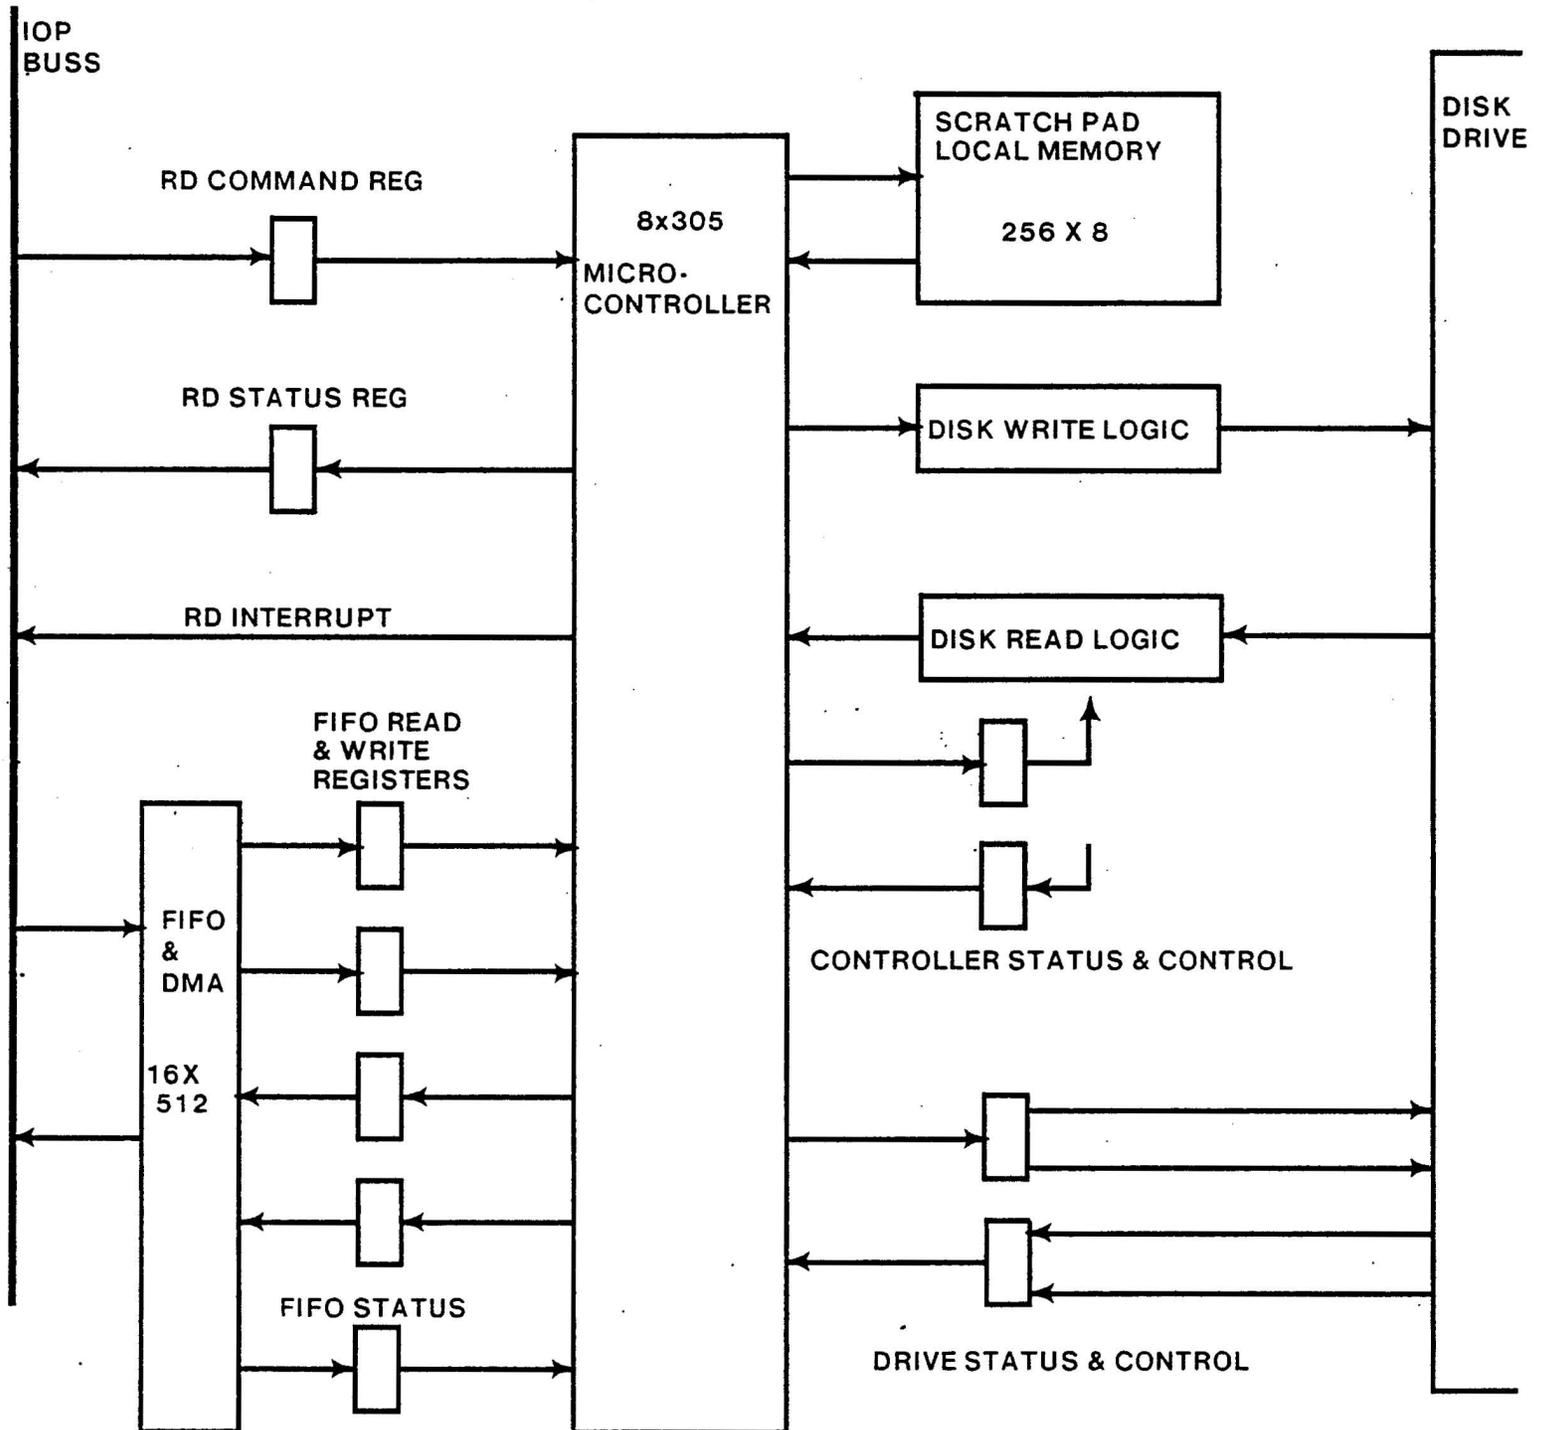

FIGURE RD 1
2.2.3.1 Rigid Disk Controller Block Diagram (See Figure RD-1.)
The Scratch Pad local memory is shown in the upper right part of Figure RD 1. The Scratch Pad stores the image of the header and label and other information needed by the controller. It is discussed in more depth under Figure RD 2.
On Figure RD 1 the write and read Logic is shown on the right, below the Scratch Pad local memory. The write and read logic is covered more fully under Figure RD 3. At this time, notice the Controller
At the right bottom of Figure RD 1, the Drive Status and Drive Control registers are shown. With these registers, the 8x305 controls (with signals Head Select, Drive Select, StepDirection In, Step, WriteEnable, etc) and monitors (with signals Track000, Ready, SeekComplete, WriteFault, Index) the current state of the drive.
The 8x305 communicates with the outside world via an 8-bit, bi-directional I/O Bus. All the connections to the 305 shown on Figure RD 1 are actually connections to this I/O Bus. The 305 sends out timing signals to synchronize the outside world with its own internal timing. The clock for the 305 is not shown. The clock is the 10MHz 2x WriteClock used by the disk write circuits. The 305 executes each instruction in 200nsec.; each bit to or from the disk also takes 200nsec. The 305 can be reset by the IOP.